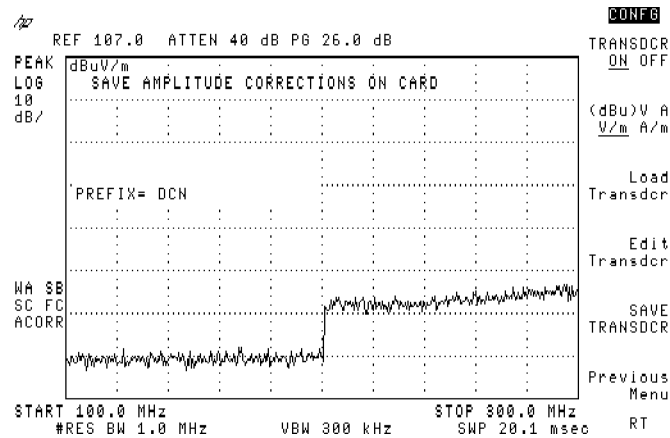

Figure 3-97. The **Transdcr Factor** Softkey Menu
12. Press **MODE**, **MODE**, which returns you to the EMC analyzer. See Figure 3-97.